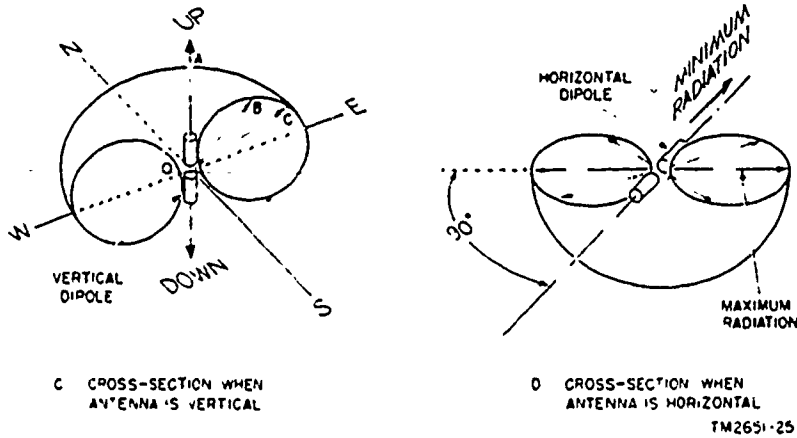

Figure 2-4. Radiation pattern of a half-wave antenna.
- (1) The half-wave is the physical length of the basic antenna element. The dipole shown in figure 2-4 is a typical half-wave antenna. Ideally, the radiation is at right angles to the plane of the antenna, and completely encircles the conductor. The resulting radiation pattern, therefore, can be compared with a doughnut, with the radiator passing through its center, as shown in figure 2-4.
- (2) The quarter-wave vertical antenna is a variation of the basic half-wave antenna. The mast represents a quarter wavelength of the radio signal, and the other quarter wavelength is supplied by a ground image to make up the required half-wave antenna. The ground image may be an artificial ground (called a counterpoise), the earth itself, or the metal body of a vehicle on which the antenna is mounted.